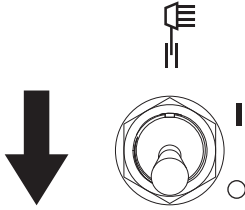

Figure 3-20. Lights Switch
2. See Figure 3-20. Switch lights to OFF (O).